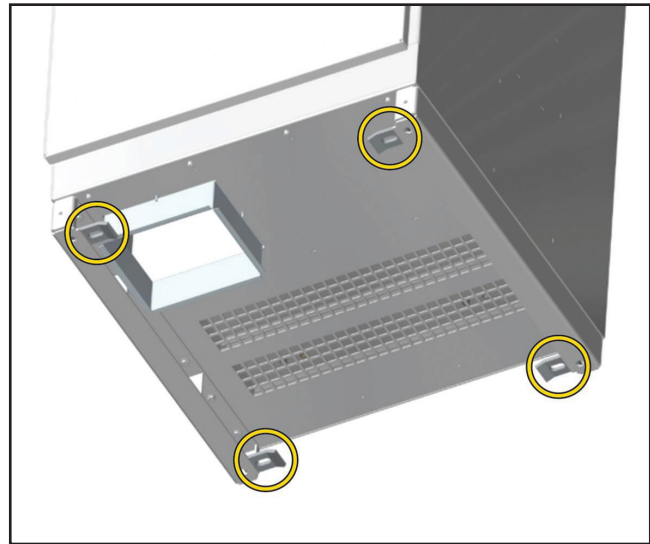

Figure 5. Mounting points.
- STEP 5.** Anchor the PCS enclosure to the concrete pad. Use $\frac{3}{8}$ -inch (10-mm) diameter \times 2-inch (51-mm) embed Hilti Kwik Bolt TZ anchors for each bracket. The anchor brackets should be located at each corner, as shown in Figure 5. Tighten the bolts again three to five days after the initial installation.